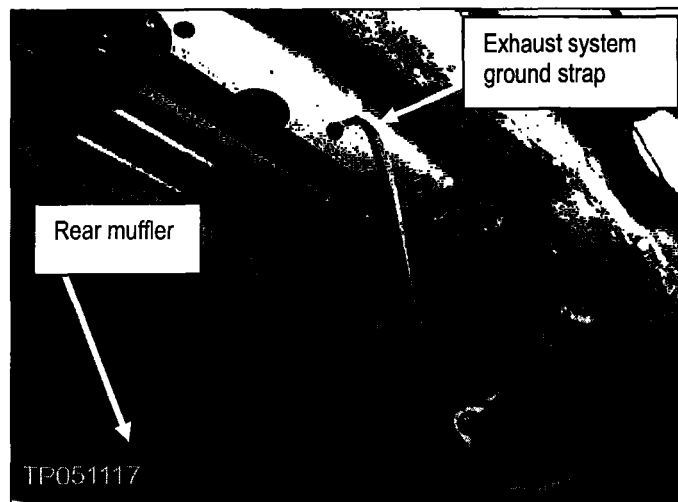

Figure 3
3. Remove the exhaust system ground strap from the vehicle under body (see Figure 3).